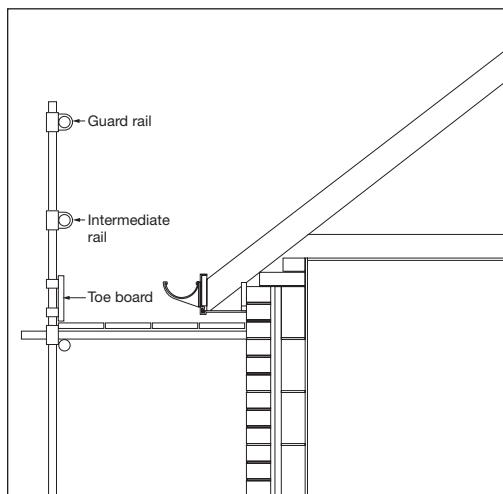

Fig 3 – Sloping roof edge protection
Where a person can fall from the lower edge of a sloping roof, a catch barrier should be provided at the edge (scaffolding as shown in Figs 3 and 4 is ideal).
- have a 150mm high toe-board (Fig 3)